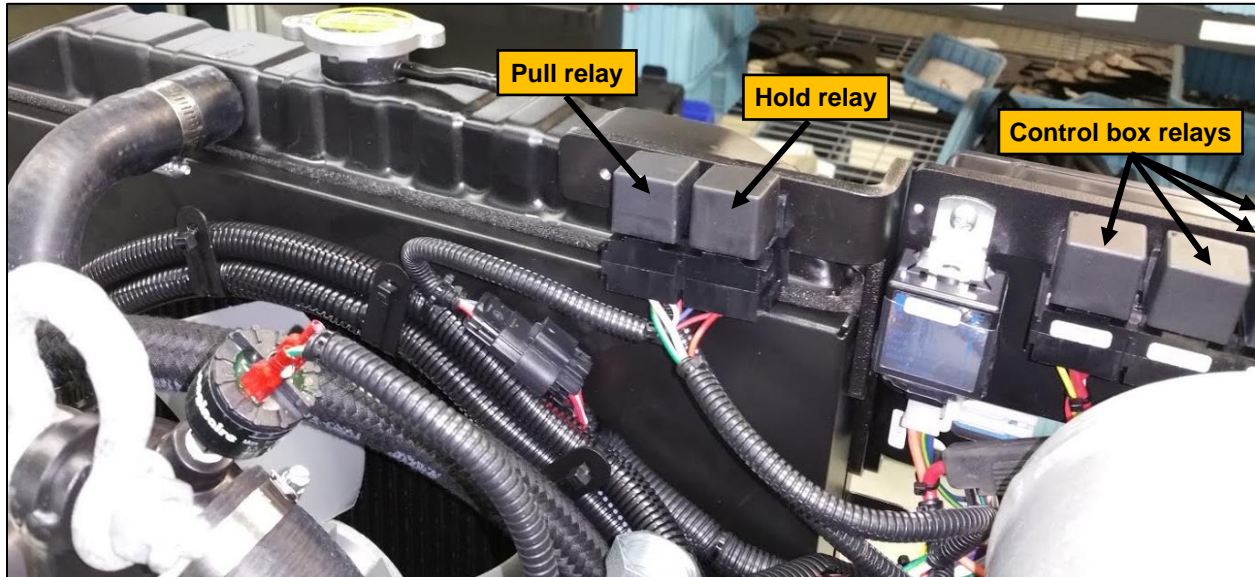

Figure 2 - identifying relays.
- ☐ Locate the Pull and Hold Relays, on the control box bracket, at the top of the radiator (Figure 2).
- ☐ Temporarily remove one of the relays from above the control box (Figure 2) and plug it in to the “Pull” relay receptacle.